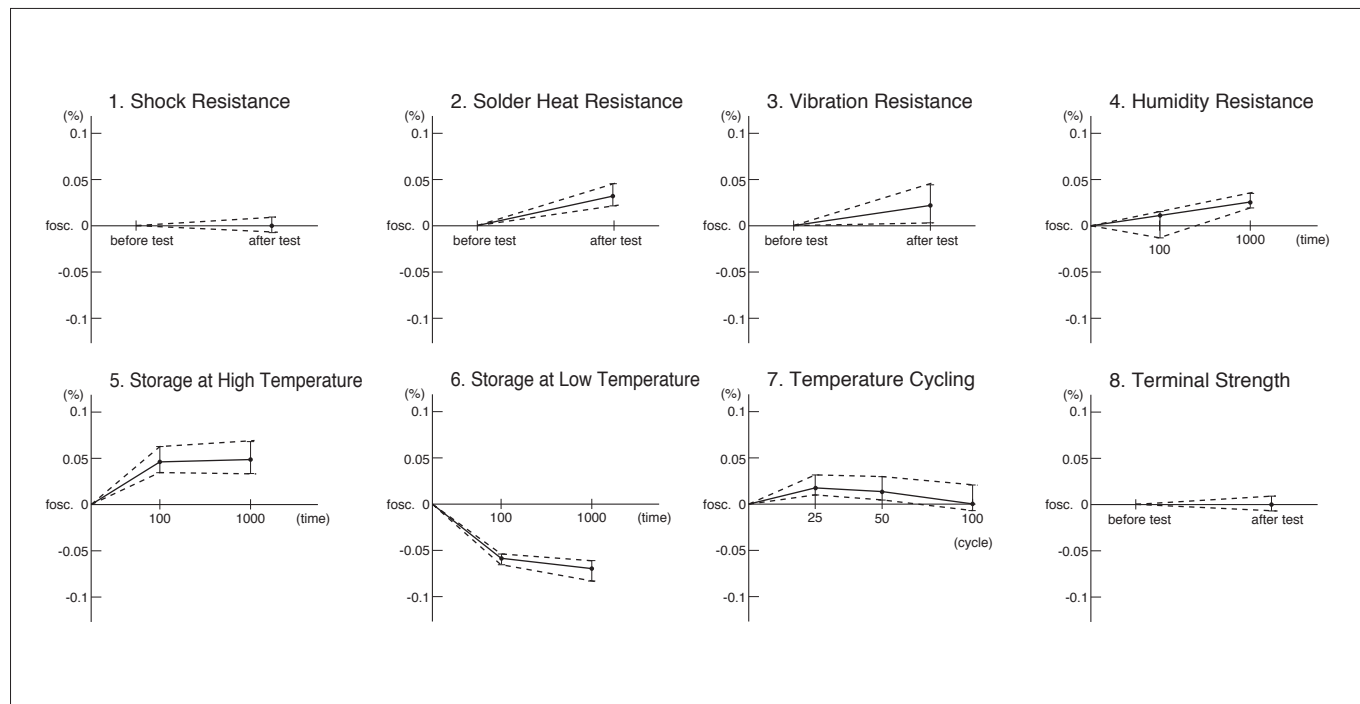
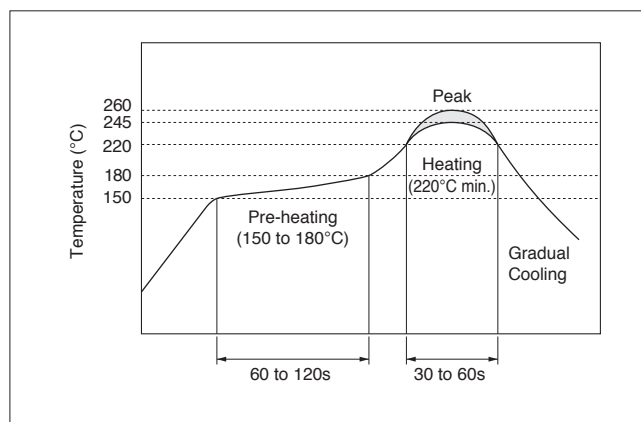

Fig. 3-2 General Changes of Oscillation Frequency in Each Reliability Test (CSTLS4M00G53-B0)
Fig. 3-3 Reflow Soldering Profile for MHz Band Chip CERALOCK®
Fig. 3-2 shows the changes of oscillation frequency in each test, the table on the next page shows the criteria after the tests, and Fig. 3-3 shows the reflow soldering profile.
2. Soldering Heat Resistance	Lead terminals are immersed up to 2.0 mm from the resonator's body in solder bath of [c], and then the resonator shall be measured after being placed in natural condition for 1 hour. ^{*1} Reflow profile show in Fig. 3-3 of heat stress is applied to the resonator, then the resonator shall be measured after being placed in natural condition for 1 hour. ^{*2}